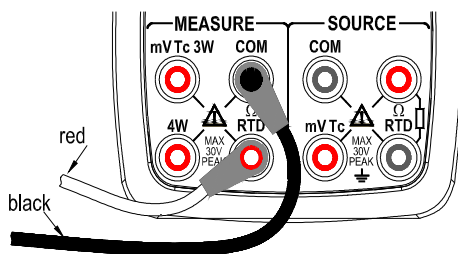

Figure 9 Measuring continuity ,ohm/RTD signal with 2w method
Two wire connection method for continuity, ohm/RTD signal (Figure 9)
Step 3: Connect the lead cables for measurement to the measuring terminals of the measuring instrument under test as shown in Figure 9, Figure 10 or Figure 11.
8.4 Measuring Temperature with Thermocouple (TC)
Connecting the devices as shown in Figure 9, the beeper sounds continuously if the loop circuit resistance under measurement is less than 50Ω, and LCD shows the present measured resistance value.